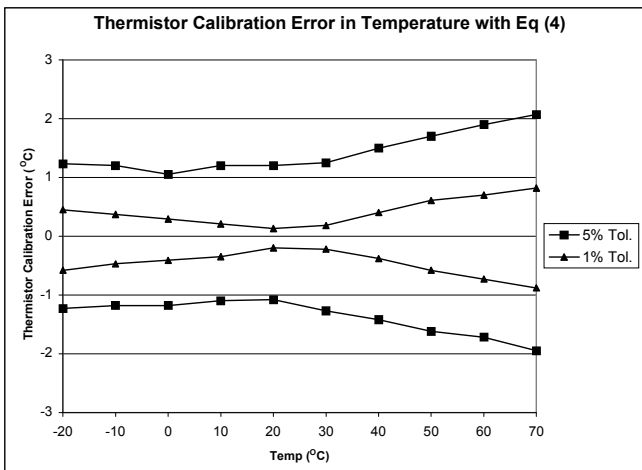

Figure 3. Temperature error due to thermistor calibration error.
Temperature error can be calculated using Equation (4) with the “nominal” constant values and the worst-case resistance values from the tolerance rating. Results of this exercise are shown in Figure 3 for a 1% and 5% tolerance thermistor. The error is the uncertainty in the temperature based on the resistance tolerance when deriving  $C_1$ ,  $C_2$ , and  $C_3$ ; it does not include any additional error based on the uncertainty in the resistance measurement.
As shown in Figure 3, below 50°C this error is less than about  $\pm 1.5^\circ\text{C}$  for the 5% tolerance 10k $\Omega$  thermistor. The error for a typical 1%